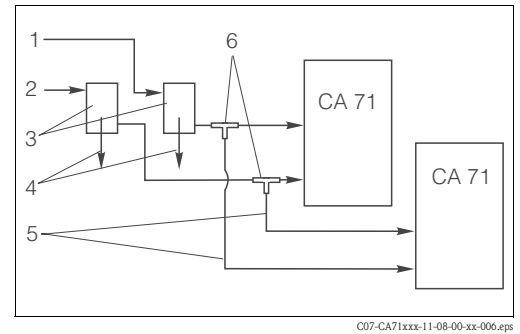

Fig. 12: Installation example
- Distance between the analysers as short as possible: sampling line between T-piece and the second analyser (Fig. 12, item 5) shorter than 1.5 m